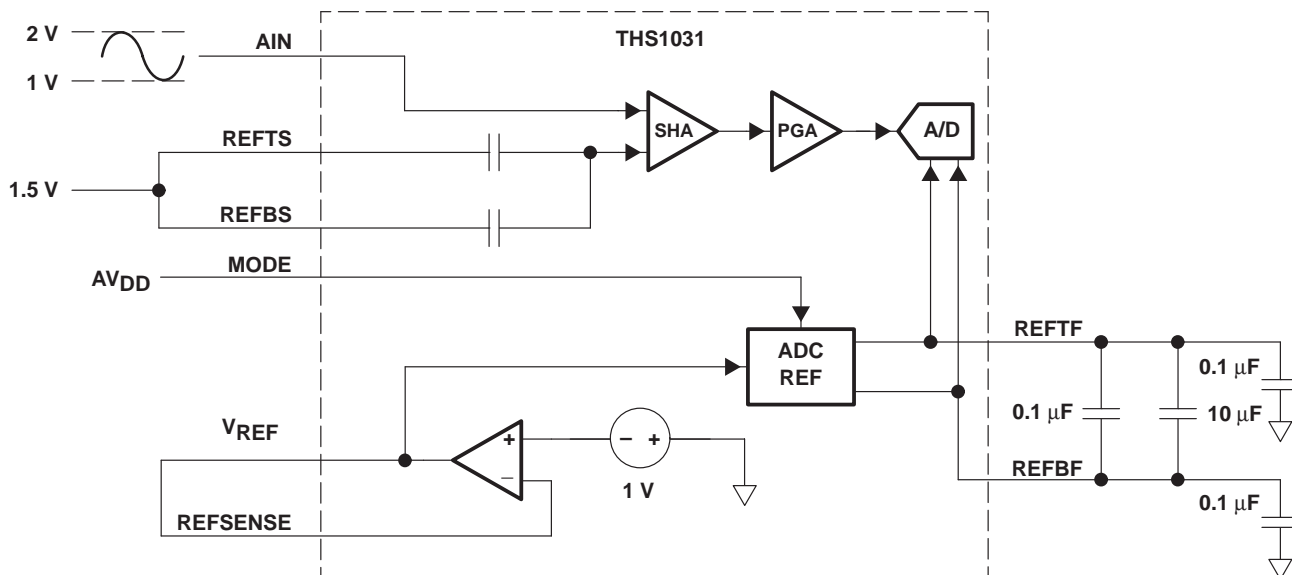

Figure 17. External Input Common Mode
- **Internal ADC Reference Mode With External Input Common Mode:** The input common mode is supplied to pins REFTS and REFBS while connected together. The input signal should be centered around this common mode with peak-to-peak input equal to the voltage on the V_{REF} pin. Input can be either dc-coupled or ac-coupled to the same common mode voltage (Figure 17) or any other voltage within the input voltage range.